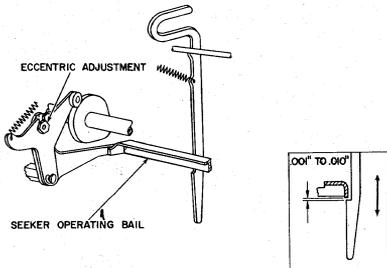

Figure 3
2. Adjust the eccentrics between the cam follower arms and the operating bail arms so that the operating surface of the operating bail is .001" to .010" above the seeker shoulders just as the seekers reach their extreme forward position (Figure 3). Keep the high lobes of the eccentric studs up and be sure that the clearance is equal across the translator.